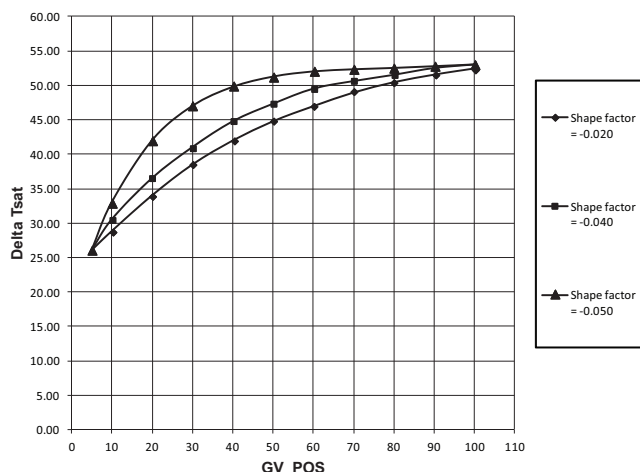

Fig. 38 — Effect of SURGE LINE SHAPE FACTOR on Surge Prevention
- Surge Line Shape Factor determines the curvature of the line mainly in the low load zone. (See Fig. 38.)